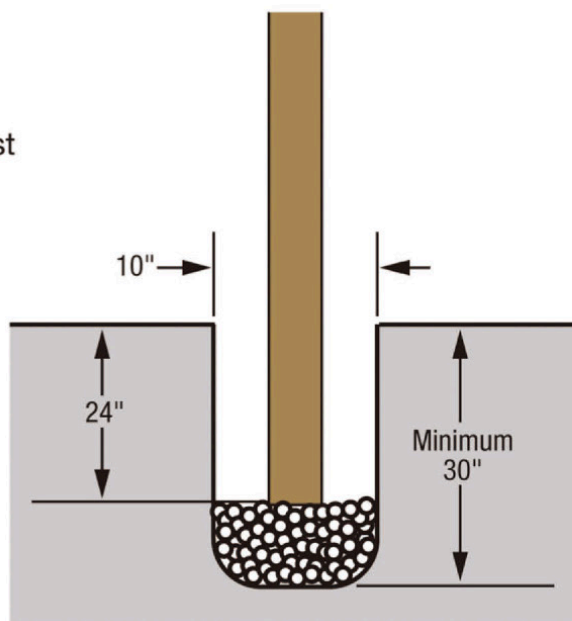

Fig 2. Setting Posts
1. Dig or auger post holes. The 4" x 4" Vinyl Posts require a **10" DIAMETER HOLE**, and must be at least **30" BELOW GRADE**. (See Fig 2.)